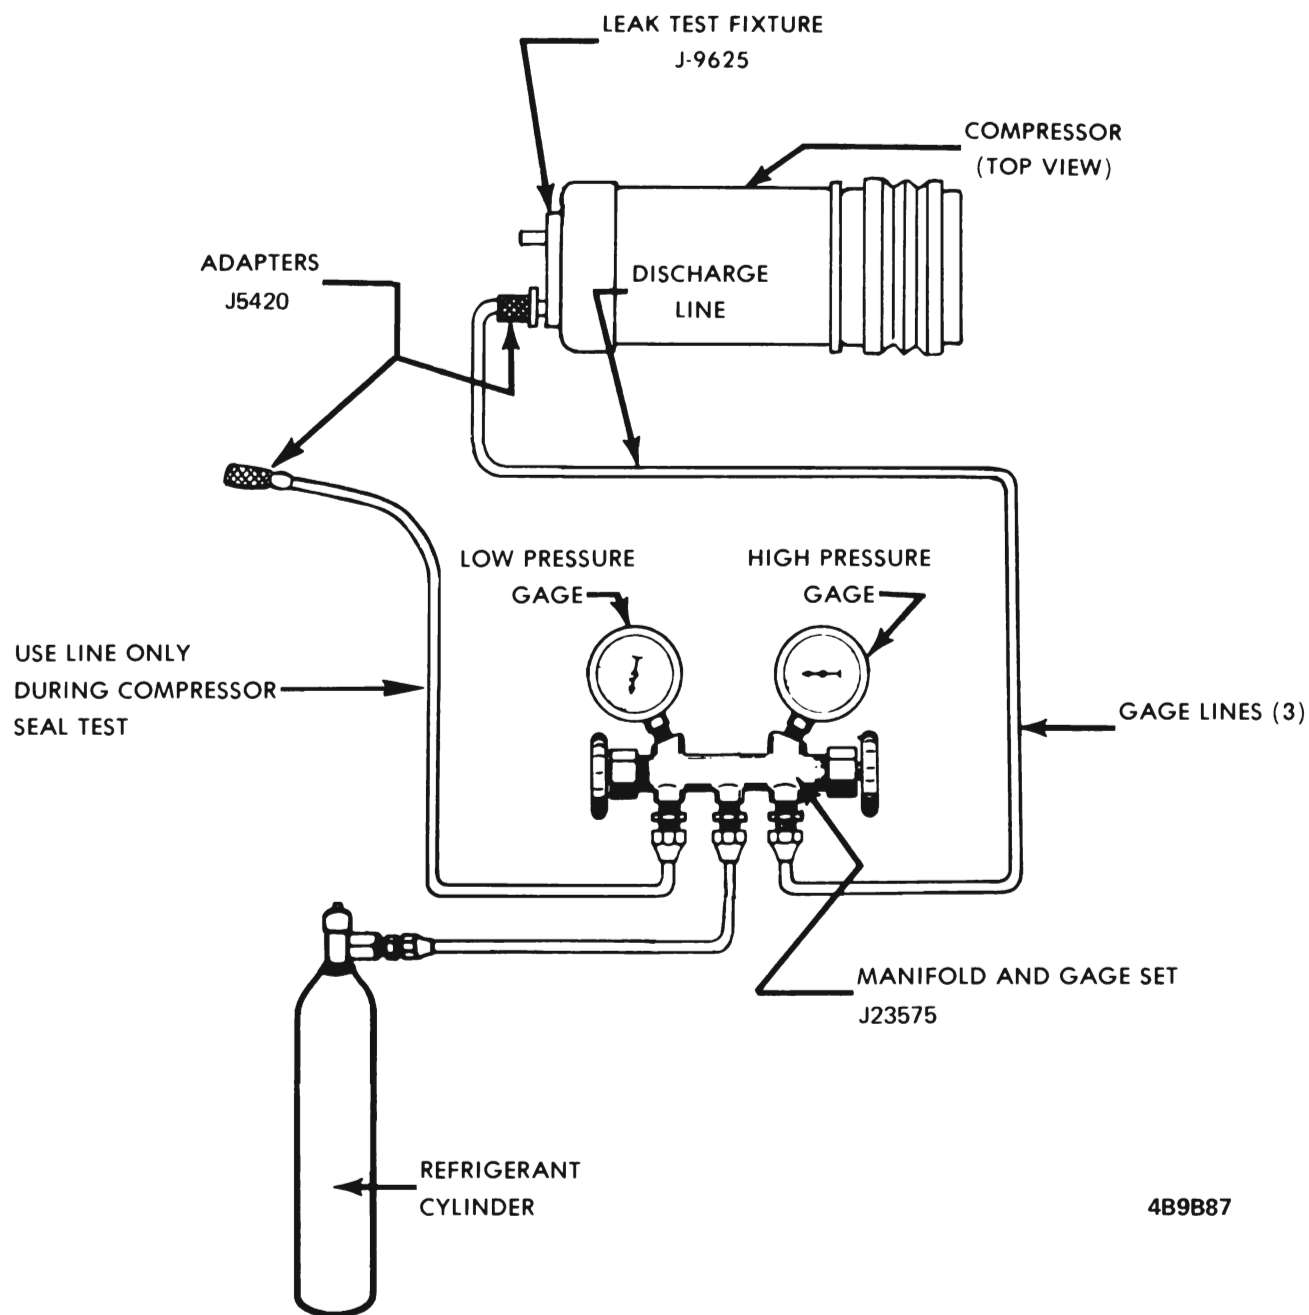

Figure 9B-102 Compressor Internal Leak Test
5. Complete reassembly by installing clutch drive plate onto hub of front head (refer to "Disassembly and Reassembly of Clutch Drive Plate and Shaft Seal"). See Figure 9B-108 disassembled view of compressor.